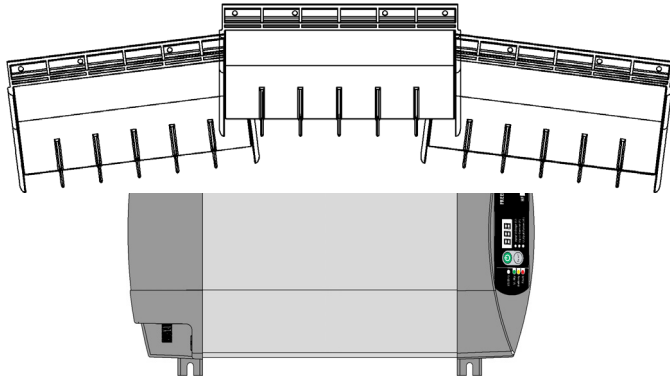

Figure 11 Typical Drip Shield Placement on a Freedom HF 1800
2. Locate an appropriate setting for the drip shields above the Freedom HF making sure you cover the entire width of the unit. You can overlay the shields as shown in Figure 11 below.